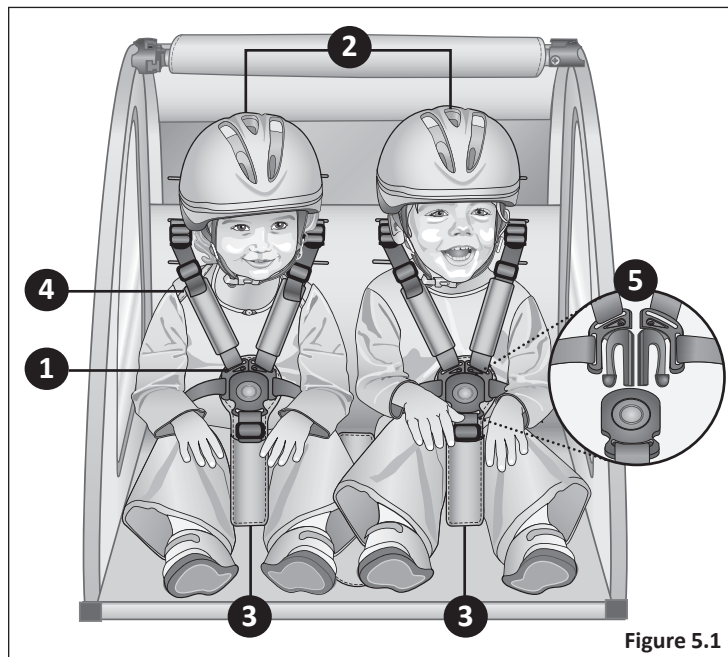

Figure 5.1
- 5 Clip the shoulder straps into the lap belt buckle, and adjust the shoulder straps. **Figure 5.1**